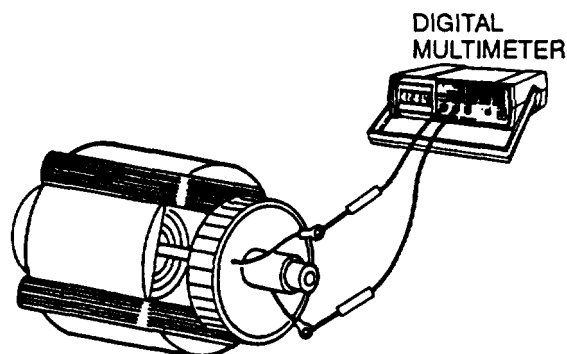

FIGURE 4-20. Testing Rotor for an Open or Shorted Windings.
- f. Connect multimeter between F1+and F2- leads (FIGURE 4-20). Resistance reading should be as shown in TABLE 4-1.